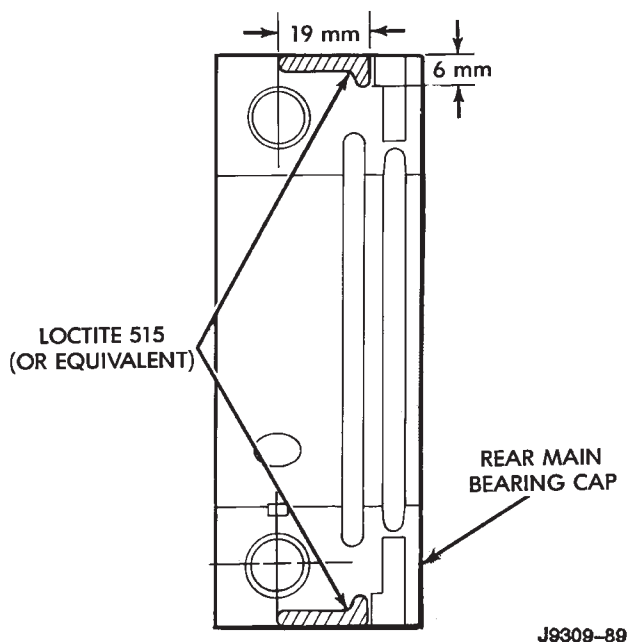

Fig. 8 Location of Loctite 515 (or equivalent)
- (7) Position the lower seal into the bearing cap recess and seat it firmly. Be sure the seal is flush with the cylinder block pan rail.
- (8) Apply Loctite 515, or equivalent on the rear bearing cap (Fig. 8). The bead should be 3 mm (0.125 in) thick. DO NOT apply Loctite 515, or equivalent to the lip of the seal.